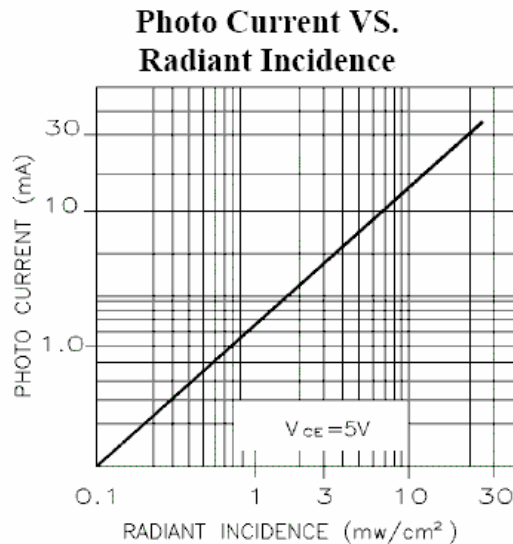

Figure C-1
**Phototransistors:** A phototransistor is similar to a photodiode except that it takes advantage of the ability of the transistor to amplify current in the active region. The current it generates is still proportional to the amount of incident light, but it is amplified by the properties of the transistor. The graph in figure C-1 shows the linear relationship between incident light and current through a phototransistor similar to the one we will be using.